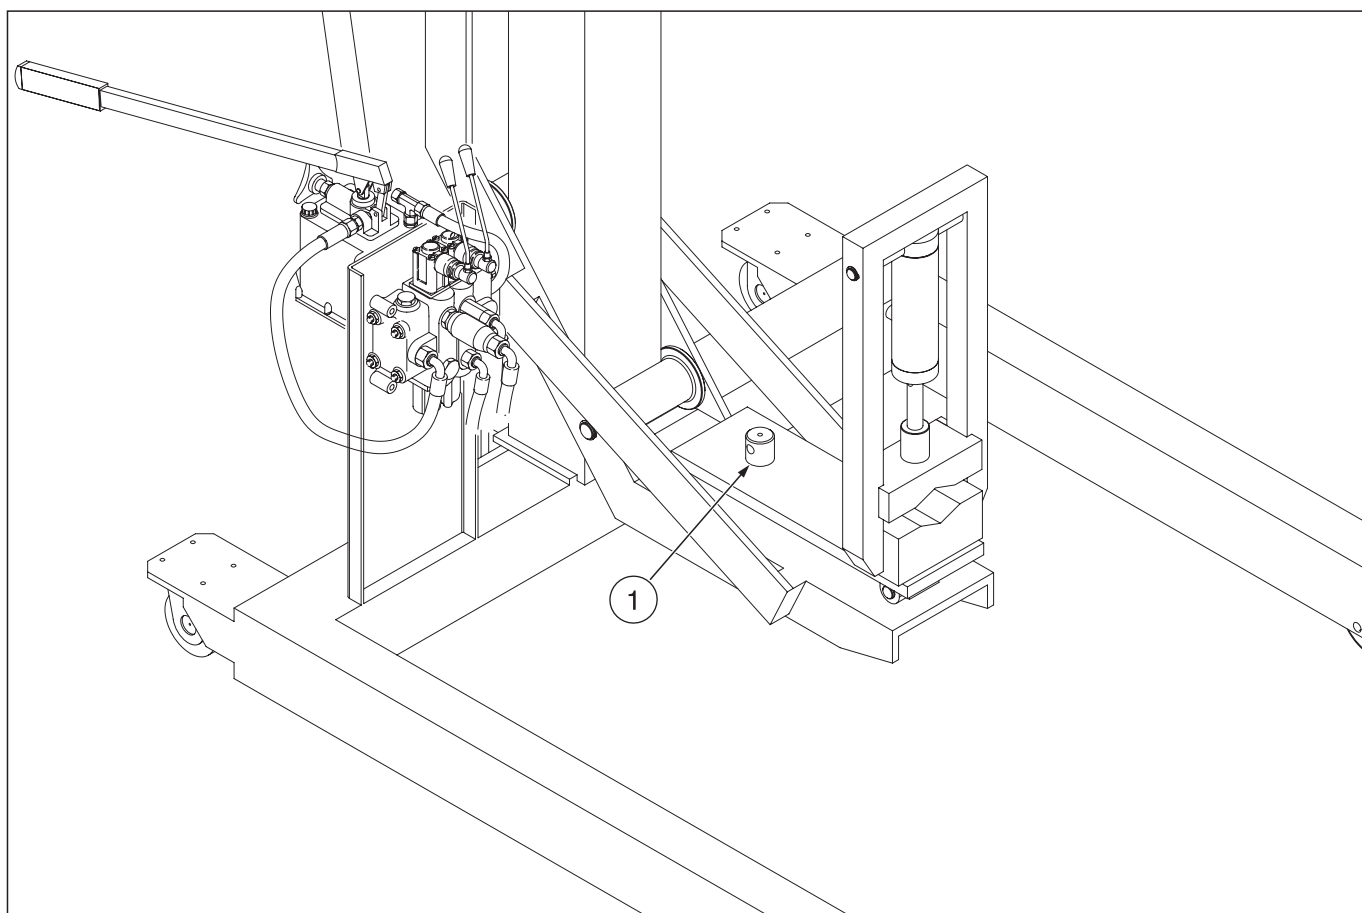

Fig. 9
8.1 ADJUSTING THE HORIZONTAL POSITION OF THE VICE UNIT (Fig. 9)